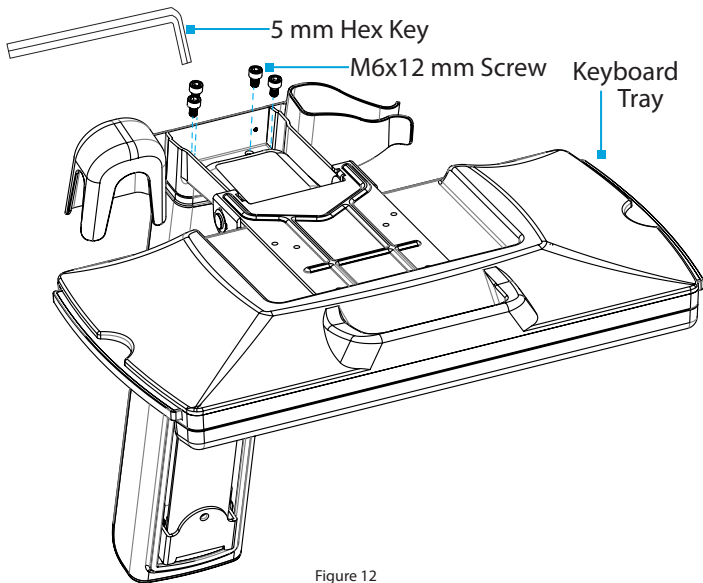

Figure 12
3. Insert the **M6 x 12 mm Screws** through the **Assembly Holes**, located in the **Keyboard Tray**, and into the **Column** and tighten, using the **5 mm Hex Key**. (Figure 12)